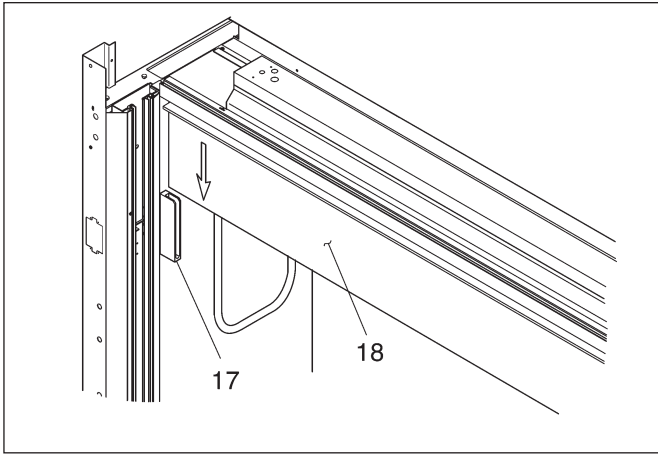

Figure 17
1. Locate the upper sash glass (18) and carefully slide it down into the factory installed fixed glass supports (17).
**Refer to Figures 17, 18**